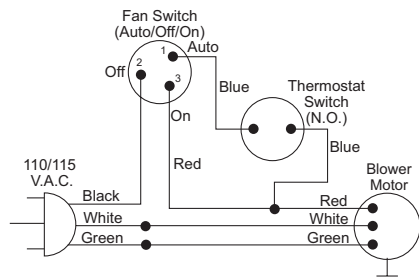

Figure 18 - Wiring Diagram For Blower Accessory Standard Installation
4. Carefully disconnect green and white wires at their insulated connectors (see Figure 18).